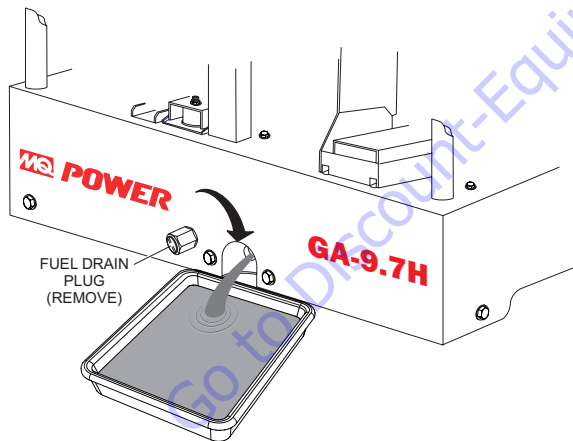

Figure 41. Draining Fuel Tank
1. After prolonged use, water and other impurities accumulate in the bottom of the tank. Occasionally, inspect the fuel tank for water contamination and drain (Figure 41) the contents if required.